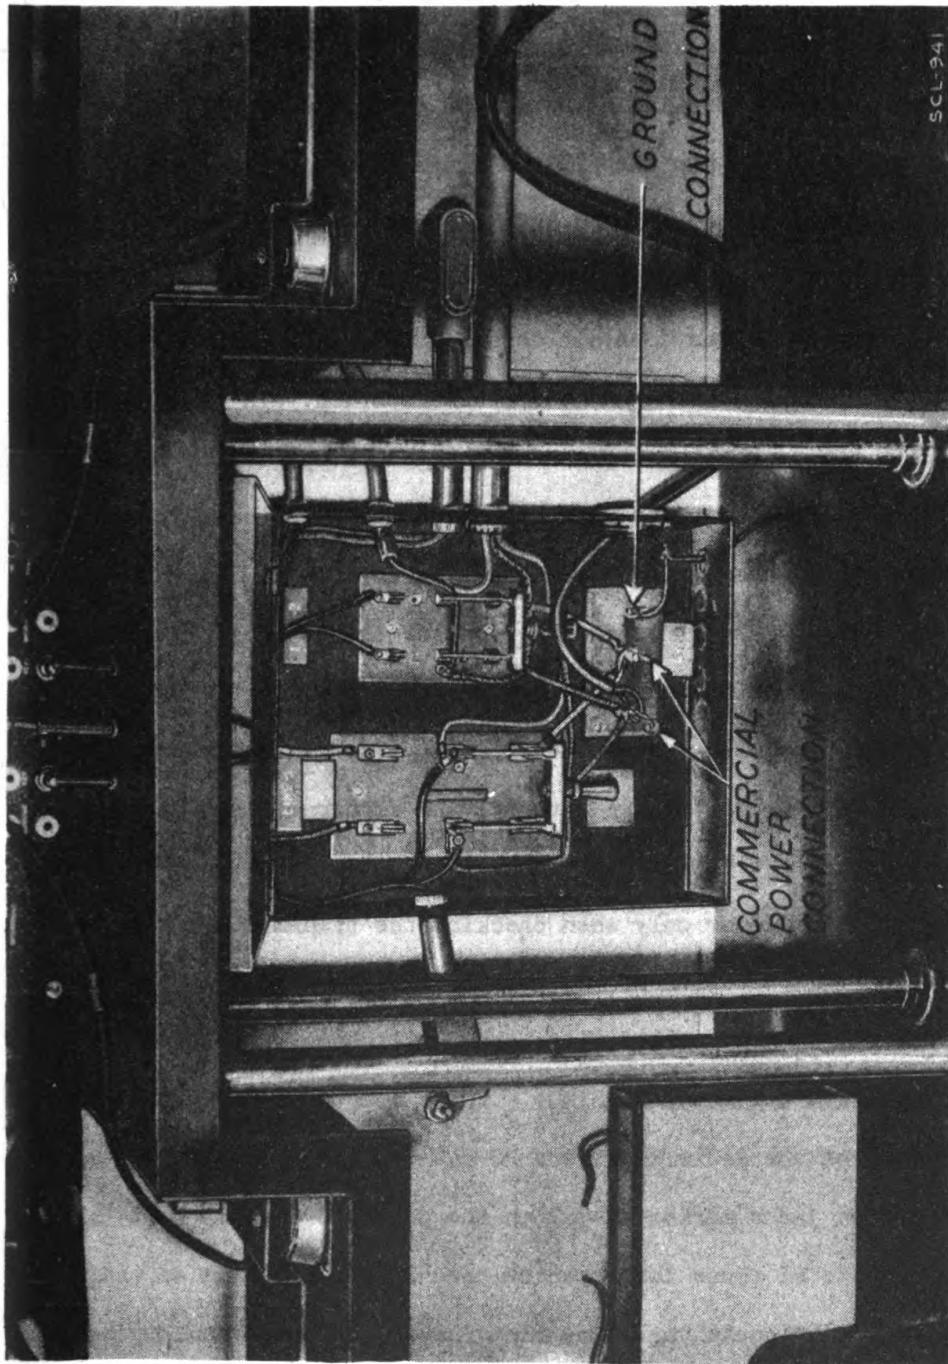

Figure 8. - Close-up of the power entrance box, located under the operating table of Trailer K-19-(*).
21. TRAILER K-19-(*) . ANTENNA AND POWER REQUIREMENTS. - as stated in paragraph 20, the trailer will be towed by Truck K-19-(*) to the receiving location and uncoupled. Erect the three receiving antennas on the three Mast Bases MP-14 installed at the front end of the trailer. Drive the Stake GP-8 into the ground near the front of the trailer and connect the wire from the stake to the ground connection in the power entrance box located on the front wall of the trailer beneath Radio Receivers BC-342-(*). When thrown in the UP position, the double-pole, double-throw knife switches located in the power entrance box connect the electrical equipment in the trailer to the emergency generator power plugs on the front of the trailer. When thrown in the DOWN position, the electrical equipment in the trailer is connected to the commercial power line, which should be attached to the two connections in the lower left part of the entrance box. (See Fig. 8.) The heaters in the trailer are on separate circuits. When using emergency power, one heater operates from one Power Unit PE-75-(*), and the other heater operates from the remaining Power Unit PE-75-(*). Thus, both emergency power units must be operated to obtain the full heating possibilities of the trailer.